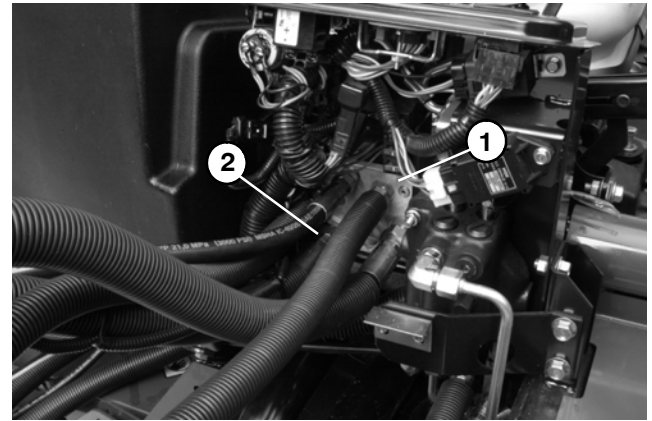

Figure 62
4. Disconnect hose connection from hydraulic fitting on manifold port (M1) (Figure 62).